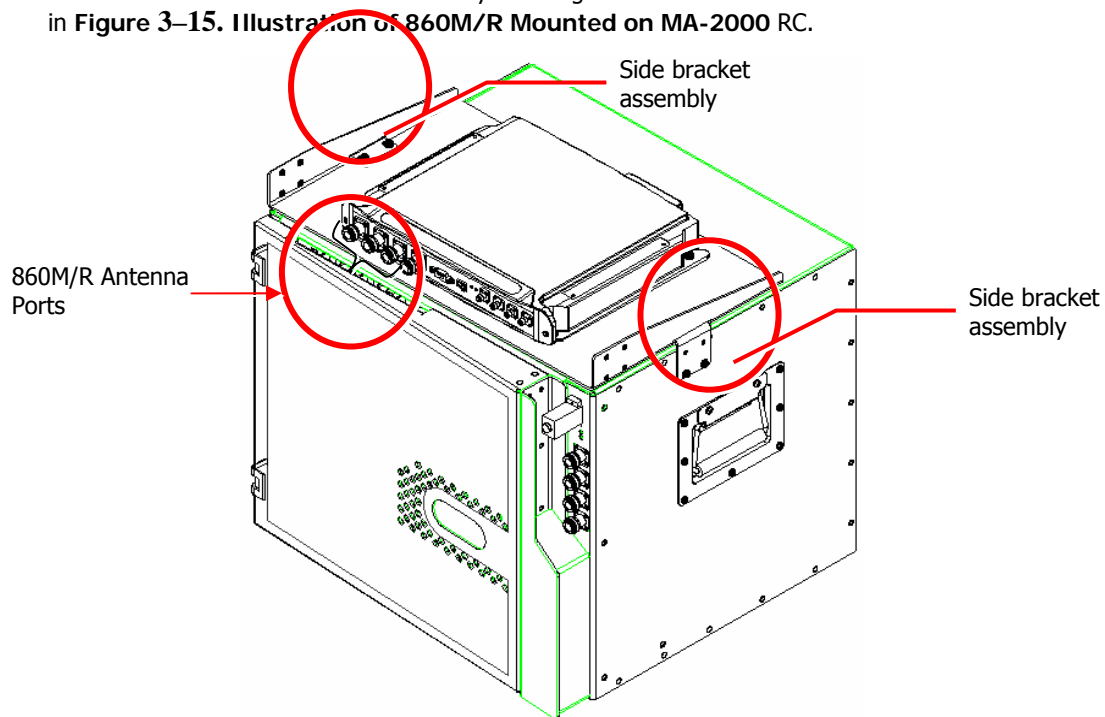

Figure 3–15. Illustration of 860M/R Mounted on MA-2000 RC
7. Connect the MA-2000 RC antenna ports to the 860M/R front panel Mobile Service port connectors as illustrated in **Figure 3–17. Illustration of MA-2000 Antenna Port Connections to 860M/R.**